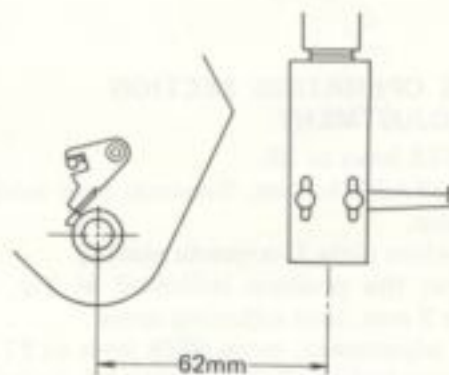
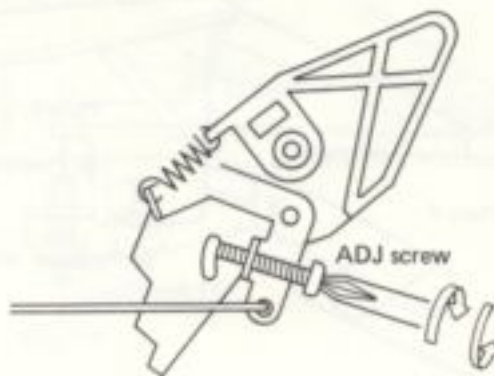

Fig. 41
Fig. 42
5. At this time, so that distance indicated in Fig. 41 becomes $62 \pm \frac{1}{2}$ mm, adjust screw shown in Fig. 42.